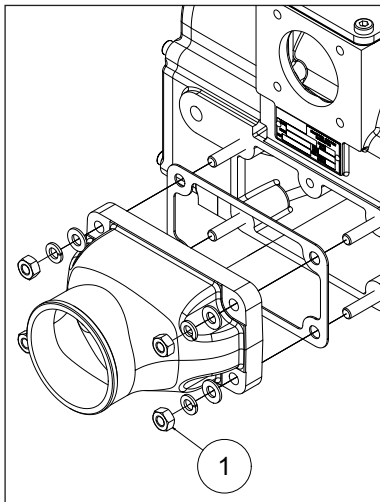

Figure 9. Inlet Flange
Where any pipework is to be fabricated using slip-on-weld flanges, such as to the inlet in Fig 9, the following points should be followed to prevent damage to the machine and contamination of the discharged product.
Tighten item 1 fig. 9 to a torque of 50 Nm. See above.